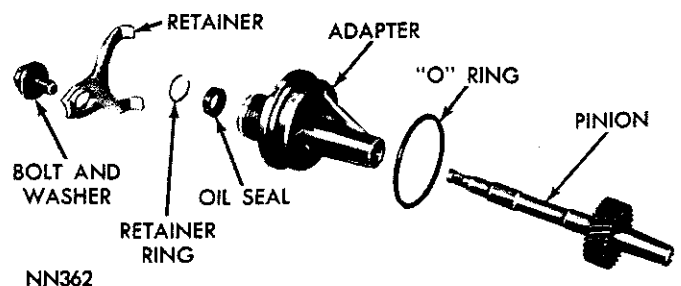
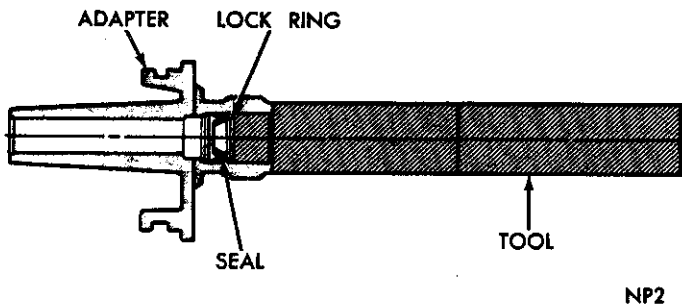

Fig. 42—Speedometer Pinion and Adapter—Disassembled
Fig. 43—Installing Speedometer Pinion Seal in Adapter
(3) With cable housing connected, carefully work adapter and pinion out of extension housing.
(4) If transmission fluid is found in cable housing, replace seal in the adapter (Fig. 42). Start seal and retainer ring in adapter, then push them into adapter with Tool C-4004 until tool bottoms (Fig. 43).
(5) Note number of gear teeth and install speedometer pinion gear into adapter (Fig. 42).